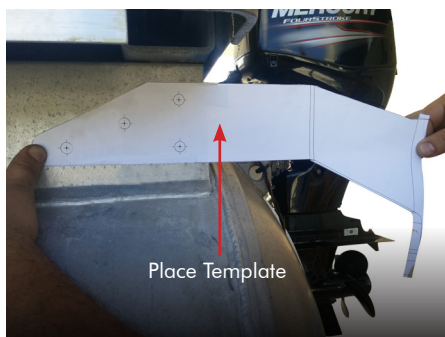

Figure 1
STEP 1 Hold drill template to the mounting surface and mark hole locations. Do this for both sides. **FIG. 1**